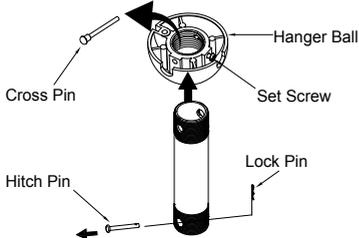

Fig. 5
**Step 2.** Remove the hanger ball from downrod assembly by loosening set screws, removing the cross pin, and sliding ball off the rod. Remove the lock pin and hitch pin from the downrod. (Fig. 5)